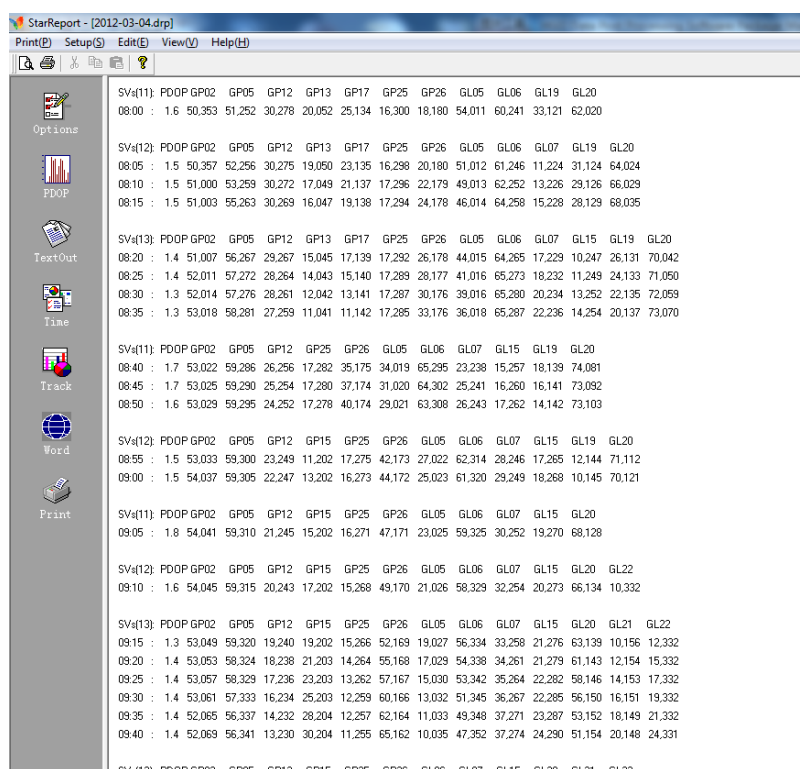

Figure 9-13
1. Export satellite detailed status Click button See Figure9-13: